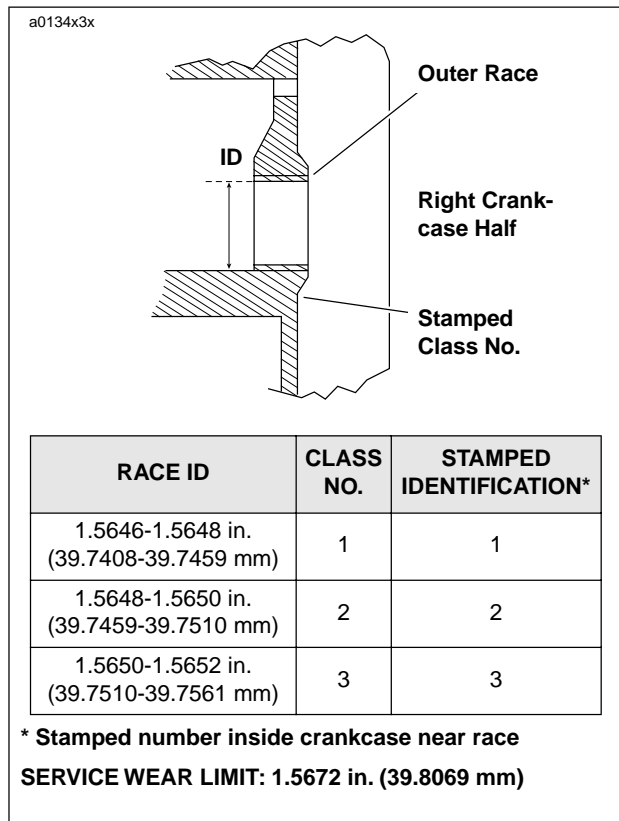

Figure 3-122. Factory Outer Race Sizes
15. See Figure 3-122. Outer races are identified at the factory as shown.